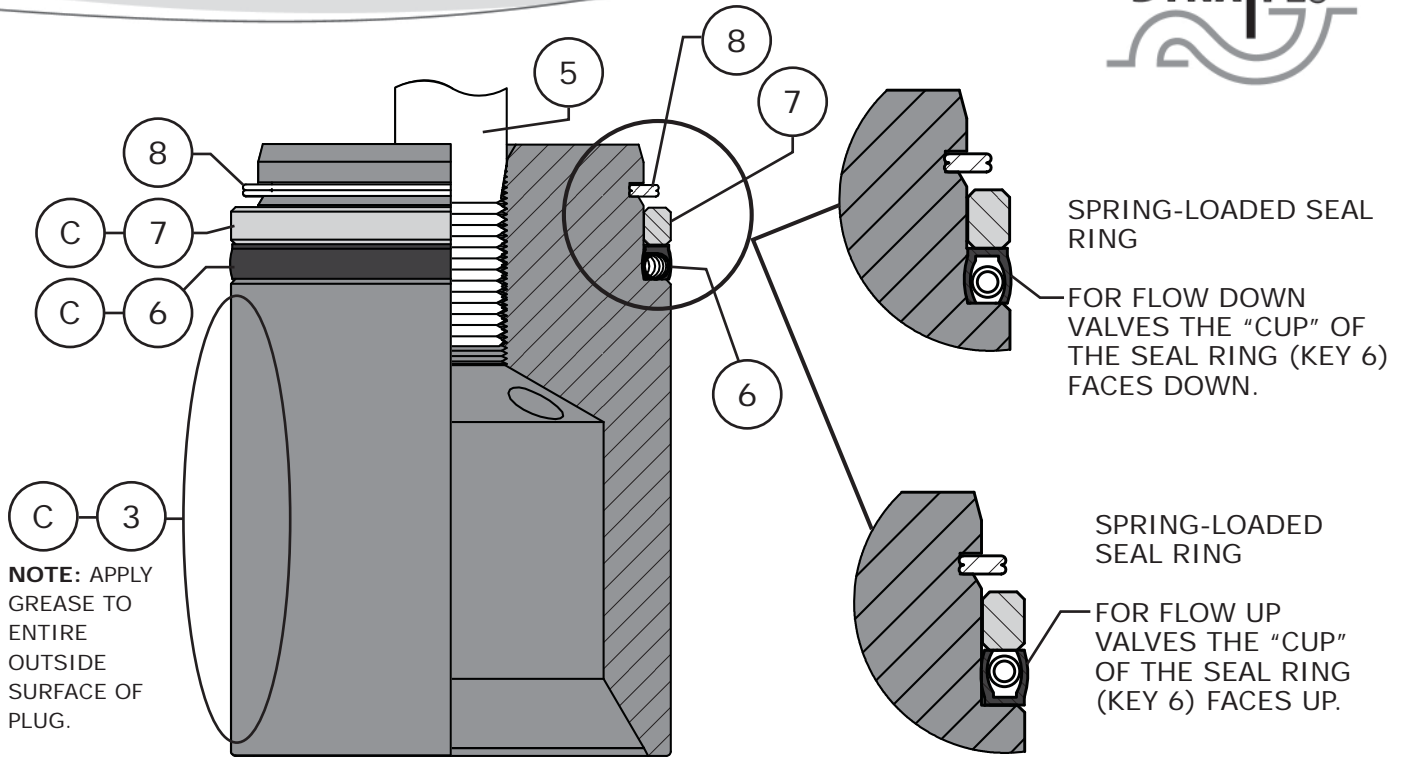

Figure 16 Model 370 Plug Seal Standard Assembly
- 2 Install the seal ring (Key 6) onto the valve plug (Key 3), refer to Figure 16 for proper seal ring orientation.
- 2 Carefully work the seal ring (Key 12) over the seat ring (Key 14) until the seal ring rests in the groove on the seat ring. The seal ring should be orientated the same direction as the seal ring used on the valve plug (Key 3) from the Plug Seal Assembly section. Refer to Figure 16 for proper seal ring orientations. Let the spring loaded seal ring rest until the seal ring shrinks back into shape after being stretched over the seat ring.